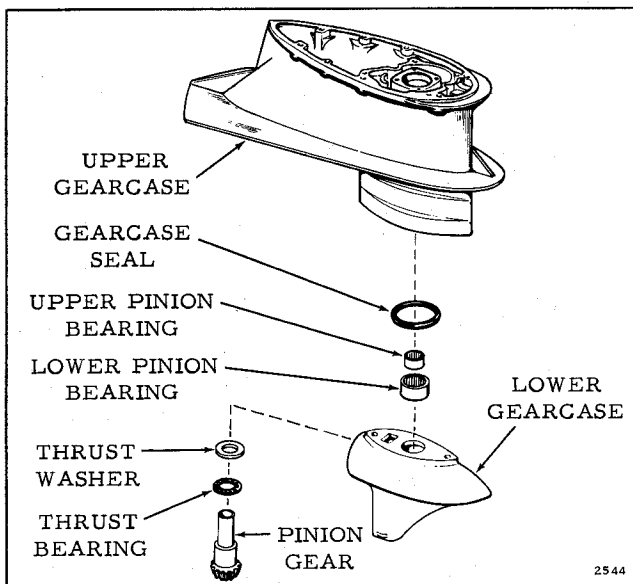

Figure 6-31. Pinion Bearing Assembly
f. Press new upper pinion bearing into position, using Evinrude bearing installer, (Special Tools #378446 and #308102) with driver (Special Tool #378737). Figure 6-31. Press against lettered side of bearing, and install flush with step at top of recess. (Bottoming bearing in recess may distort bearing cage.)